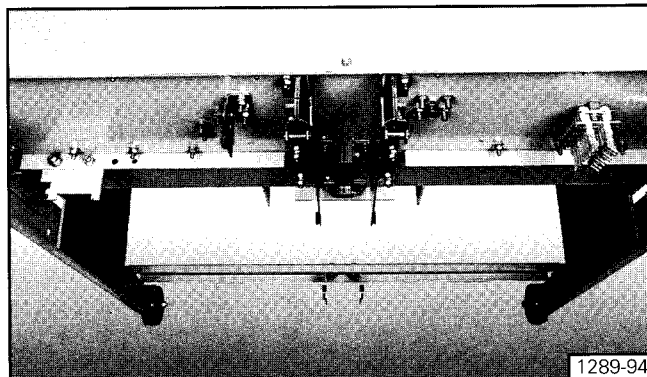
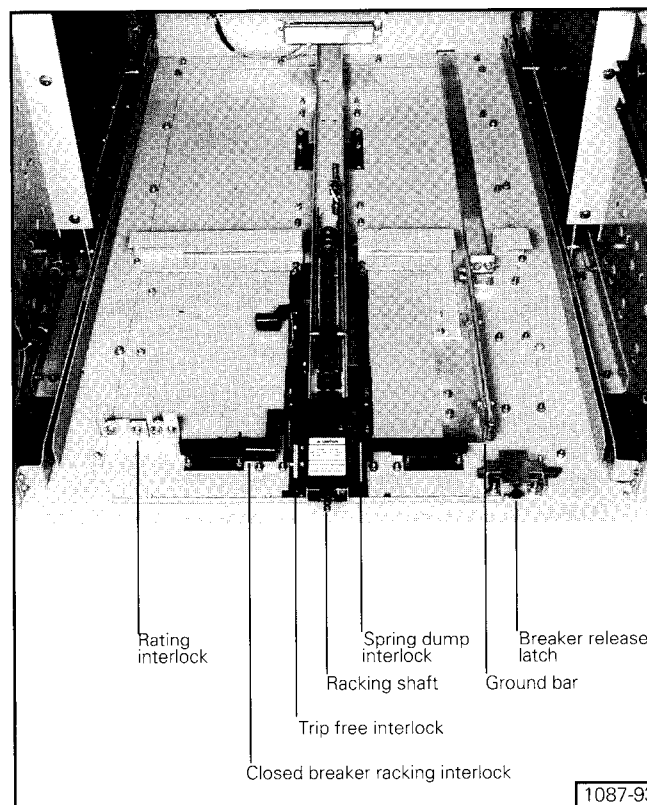

Figure 28. Breaker Interlocks and Ground Disconnect
Figure 29. Racking Mechanism and Floor Interlocks
Figure 28 shows the devices providing the trip-free interlock function. The purpose of the trip-free interlock is to hold the circuit breaker operating mechanism mechanically and electrically trip free. The breaker is held trip free during racking and whenever the breaker is between the TEST and CONNECT positions within the switchgear enclosure. This interlock ensures that the circuit breaker primary contacts can only be closed when in the CONNECT position, or the TEST position, or out of the switchgear cell.
Figure 28 shows the rating interlock interference plates mounted on the circuit breaker frame. The breaker interference plates are complemented by matching plates located in the cubicle.
Figure 28 shows the ground disconnect contact mounted at the bottom of the circuit breaker. The spring loaded fingers of the disconnect contact engage the ground bar (**Figure 29**) at the bottom of the switchgear assembly. The ground bar is to the right of the racking mechanism, shown at the bottom center of the switchgear.
Figure 29 shows the racking mechanism in the switchgear used to move the circuit breaker between the DISCONNECT, TEST and CONNECT positions. This mechanism contains a set of interface blocks that mate with the bottom of the circuit breaker housing, and lock the breaker to the racking mechanism during in and out movement. A racking handle (not shown) mates with the threaded shaft of the racking mechanism. Clockwise rotation of the crank moves the breaker into the switchgear, and counterclockwise rotation removes it.
The rating interlock consisting of a coded interference plate is mounted on the vehicle as shown in **Figure 28**. A mating interference blocking plate is mounted in the drawout compartment as seen in **Figure 29**. The two plates are mounted in alignment and must pass through each other in order for the breaker vehicle to enter the drawout compartment. The interlock is coded to test rated voltage, as well as interrupting, close & latch, and continuous current ratings. The circuit breaker must equal or exceed all of the cubicle ratings in order to enter the compartment.
a. **Closed Breaker Interlock - Figure 28** shows the location of the closed breaker interlock plunger on the circuit breaker frame. The purpose of this interlock is to positively block breaker racking operations whenever the breaker is closed. The plunger is coupled to the jack shaft (**Figure 15, 63**). When the jack shaft rotates 60 degrees to close, the interlock plunger is driven straight downward beneath the frame of the breaker.
The downward projecting plunger blocks racking operation when the breaker is closed. **Figure 29** shows the racking mechanism located on the floor in the center of the breaker compartment. On the left side of the racking mechanism, two "wing-like" elements project. The closed breaker interlock plunger, when down (breaker closed), falls behind the front wing in the TEST position and behind the rear wing in the CONNECT position.
b. **Trip Free Interlock - Figure 28** shows the trip free racking interlock, a plunger with a roller on the lower end. It has spring return to the reset or lowest position. The plunger roller tracks the shape of the racking cam on the racking mechanism in the switchgear.
The automatic closing spring energy release (spring dump) (**Figure 28**) is a plunger with a roller on the lower end. The spring dump has a return spring which returns the spring dump to the reset or lowered position. The plunger roller tracks the shape of the spring discharge cam on the racking mechanism in the switchgear (**Figure 29**).